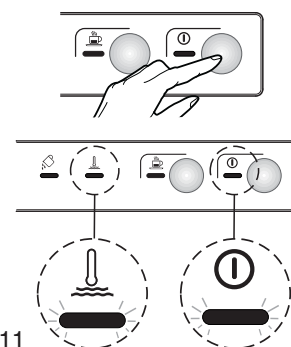

fig.11
- Turn on the appliance by pressing the button 1, the indicator light 2 goes on, together with the indicator light 5 that indicates the beginning of water heating (fig. 11).